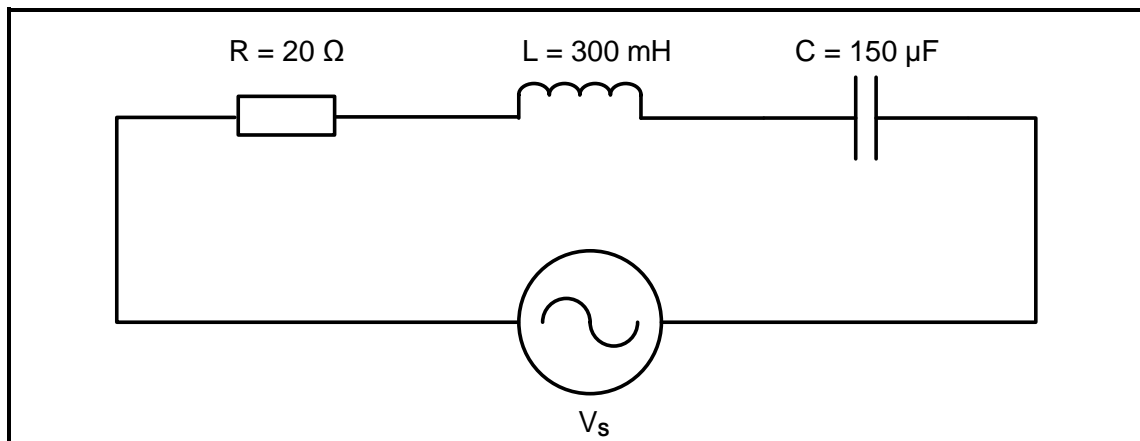

FIGURE 2.4: RLC SERIES CIRCUIT
2.4 Refer to FIGURE 2.4 below and answer the questions that follow.
- 2.4.4 Calculate the value of the capacitance required for the circuit in FIGURE 2.4 to resonate at 2 kHz. (3)